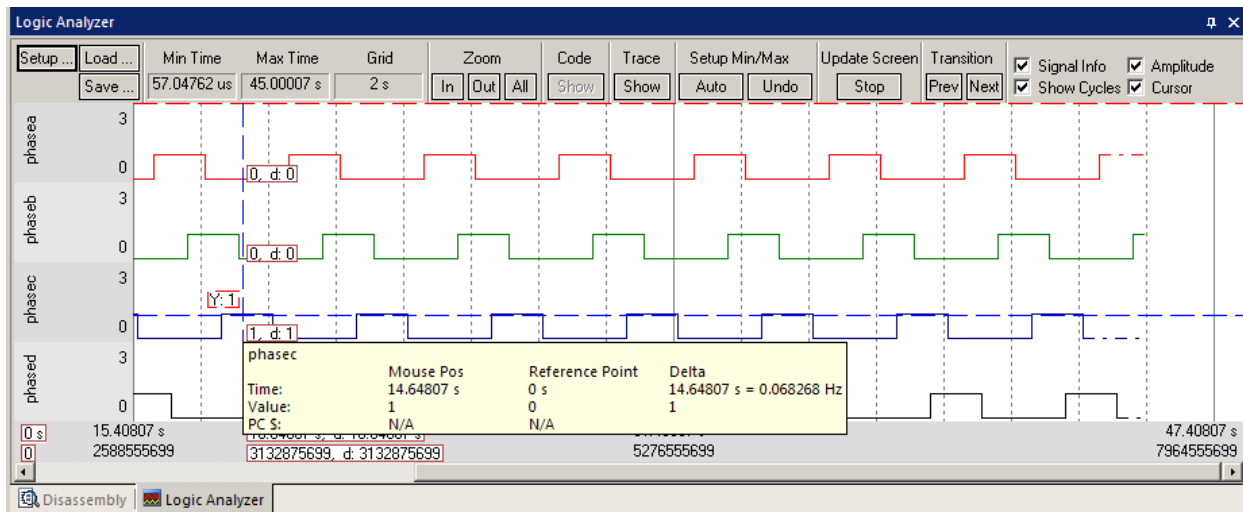

Figure 11. Logic Analyzer measurements of signal *phasec*.
1. Add the four variables to the Logic Analyzer window. These variables will be listed on the left side of the LA window as shown in Figure 11.
4. As shown in Figure 11, select Signal Info and Show Cycles. Click to mark a place and move the cursor to get timings. Place the cursor on one of the waveforms and get timing and other information as shown in the inserted box labeled *phasec*.